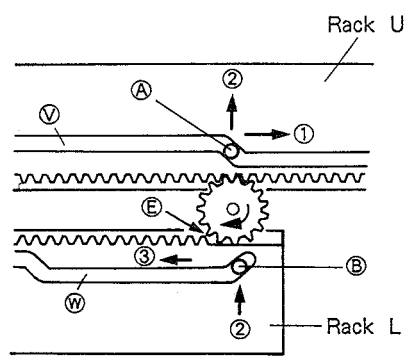

Fig. 10-12.
As shown in Fig. 10-12, when rack L (tray 2) is at the play position, the linear gear section of rack L is only touching the gear (section ⑧), and rack L cannot move forward under its own force.